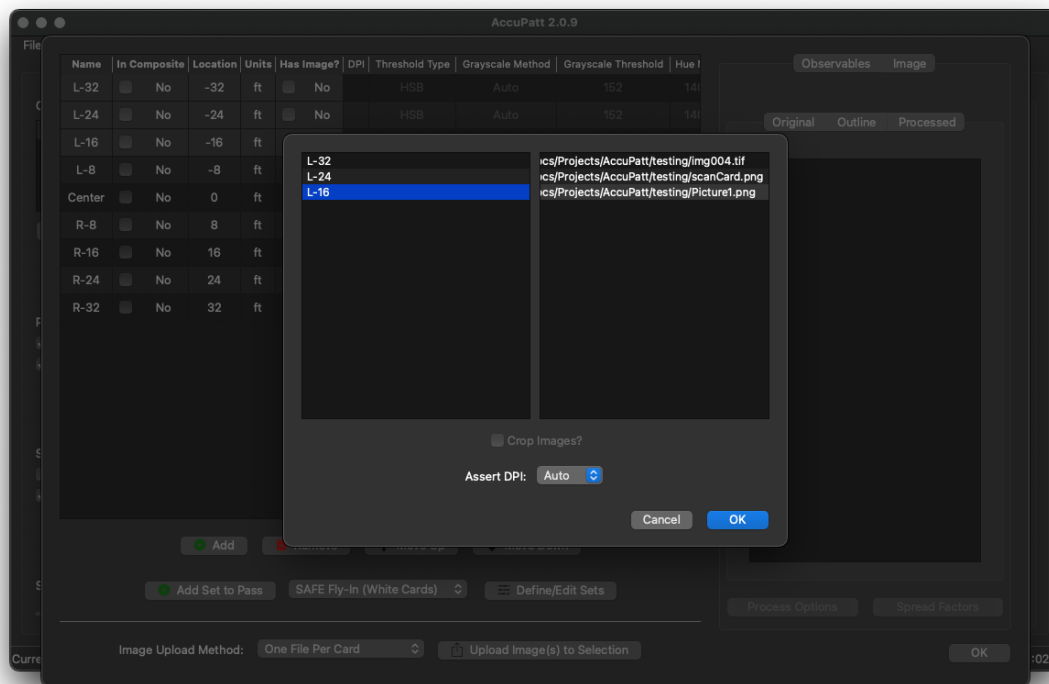

Figure 24: Spray-Card Analysis - Upload Single Images
8.1.2.1 One Card Per File For images which are already cropped appropriately, they can be directly uploaded to the datafile (Figure 24). Selected files [right column] can be dragged to alter the order to match the proper order of declared card names. An **Assert DPI** menu allows setting of image DPI as automatic (set by image metadata) or to one of several common values. It may also optionally be supplied via direct-type entry to be applied to all uploaded cards.